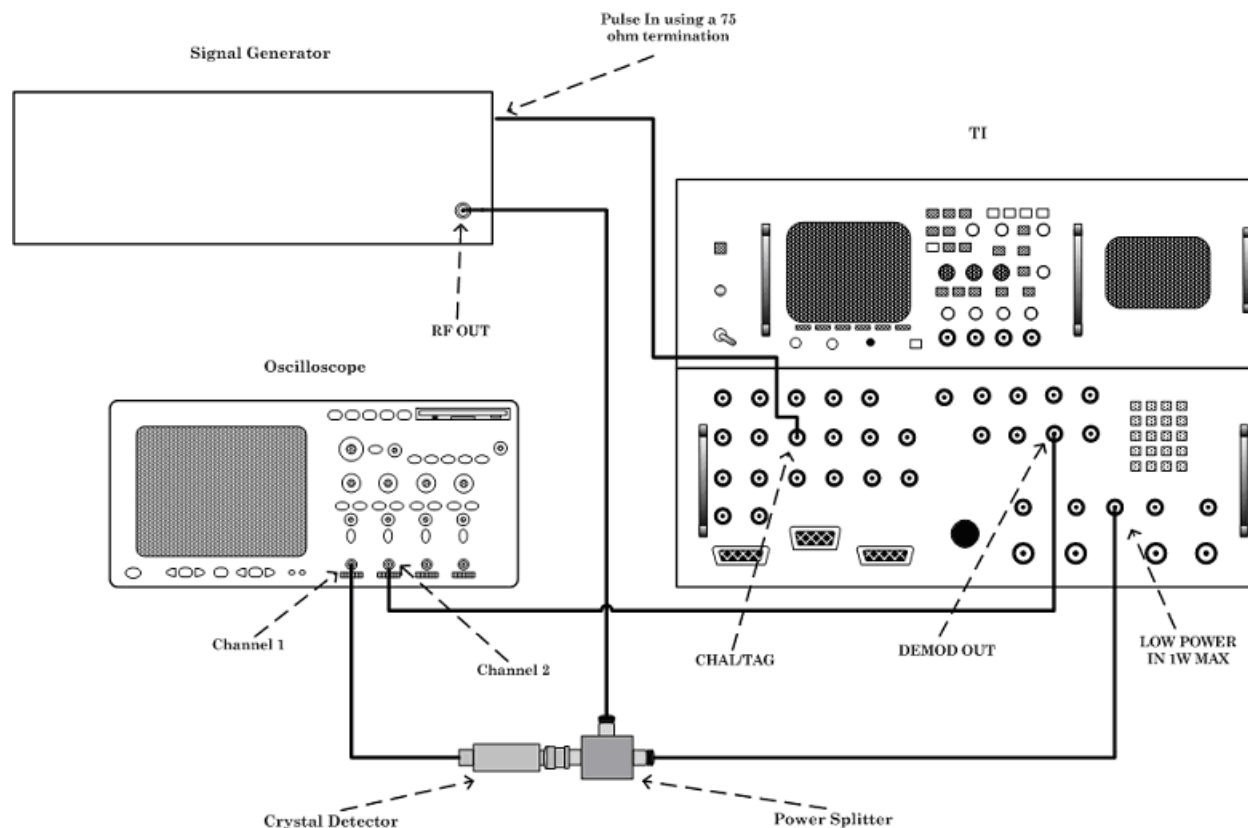

Figure 2. Spacing setup.
(1) Connect equipment as shown in figure 2.
(2) Press TI keys as listed in (a) through (r) below: